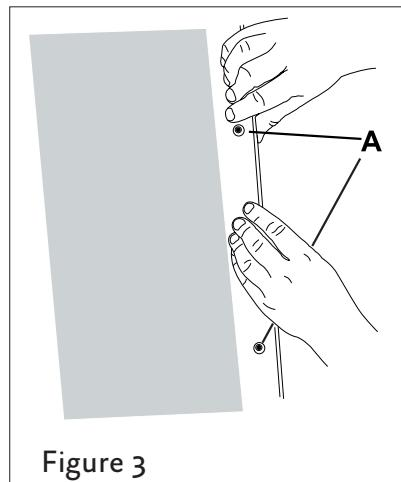

Figure 3
- The hole in the long side must match the holes in the dishwasher. (see A in Figure 3)